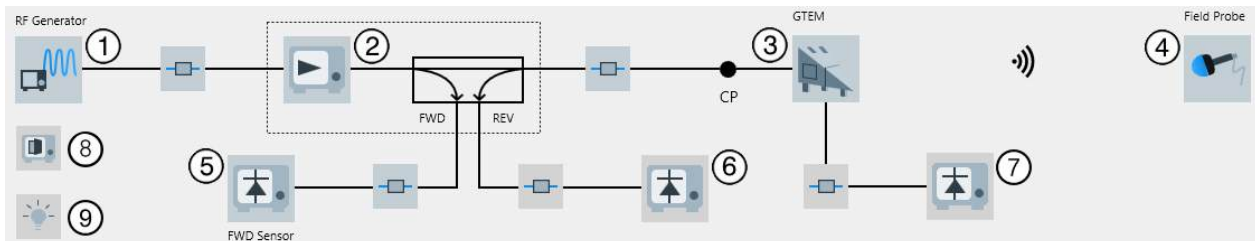

Figure 4-155: EMS hardware setup diagram (radiated) for a TEM Waveguide in Calibration View
- The "Calibration View" (see Figure 4-155)